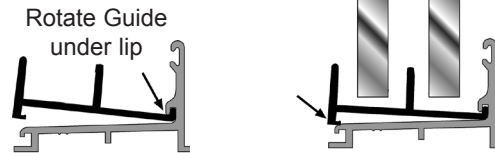
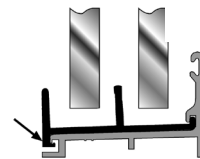

Figure 6B
Figure 6C
- Press the Bottom Track Guide (#7) onto the Bottom Track/Curb (#2) and lock it into position by pressing firmly on the back edge of the Bottom Track Guide (#7) as shown in Figure 6B. You should feel it lock into place. If the Bottom Track Guide (#7) doesn't lock into position easily, it may be necessary to press firmly on one end to start the process and work along the back of the Bottom Track Guide (#7) in order to lock it into place (See Figure 6C).